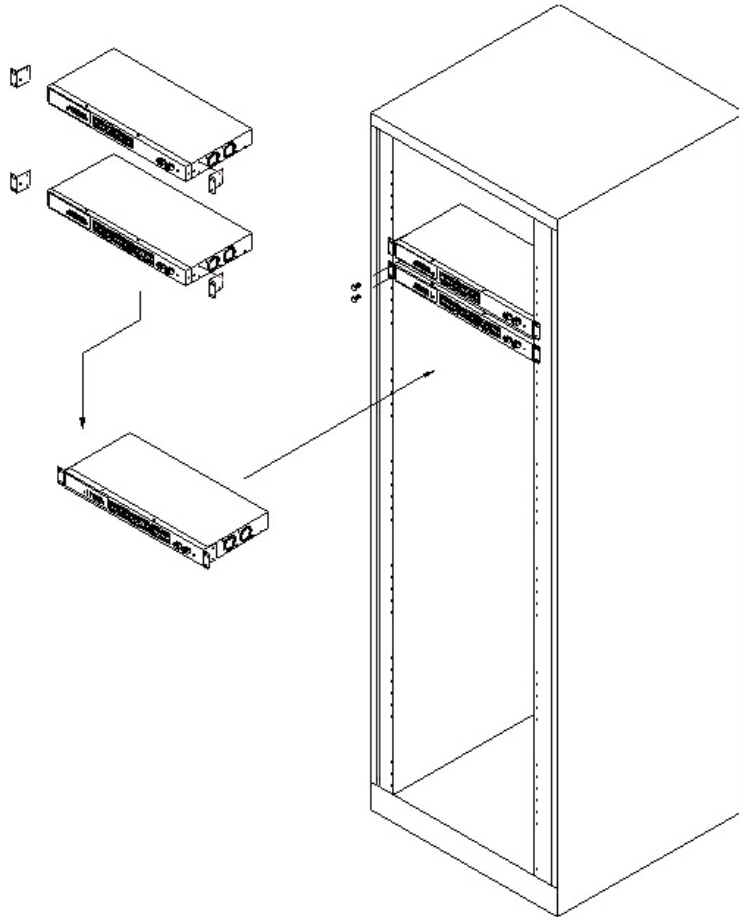

Figure 3-2. Chassis installation.
3. Attach four of the supplied mounting screws (two on the left, two on the right) to the switch's sides to hold the bracket in place (see Figure 3-2).